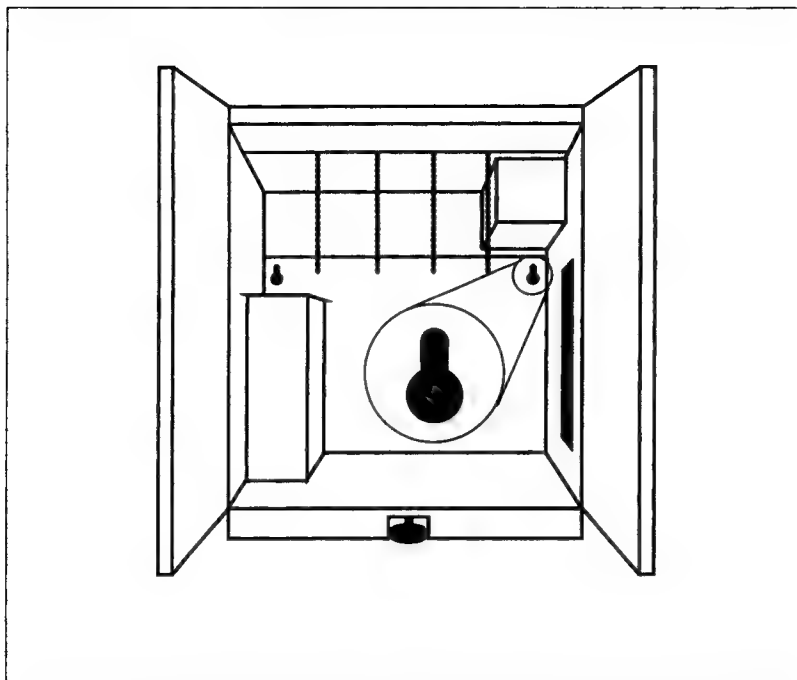

Figure 2-35. Tightening Top Screws from Inside of the Main Weldment Assembly
- h. Tighten the two top screws to the back panel from inside of the main weldment assembly. You will need to hold back the soundproofing foam in order to reach the screws (Figure 2-35).